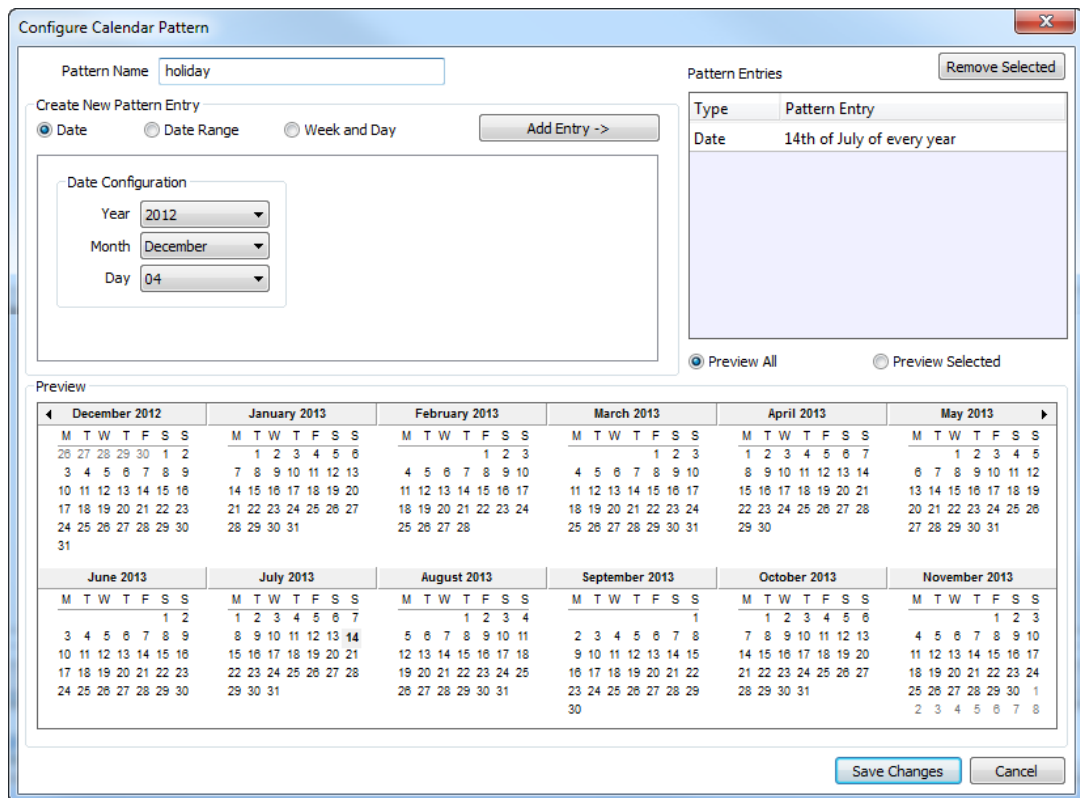

Figure 26: Configure Calendar Pattern Dialog.
3. The **Configure Pattern** dialog appears as shown in Figure 26. Add dates to the calendar pattern by entering a Date Configuration. Then click **Add Entry**. The date appears in the Pattern Entries list on the right-hand side.